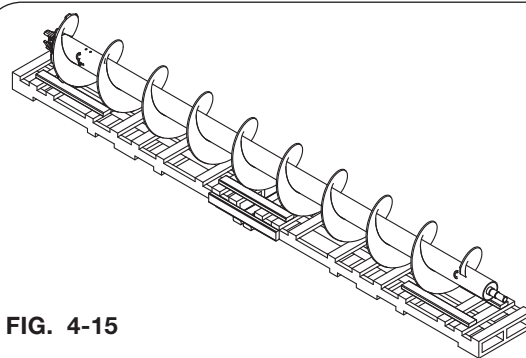

FIG. 4-15
- Insert the bushing (9004877) into the end of the upper auger. Attach the thrust washer (9004878) and apply anti-seize to the soft start and insert into the auger tube. (FIG. 4-15 and 4-16)